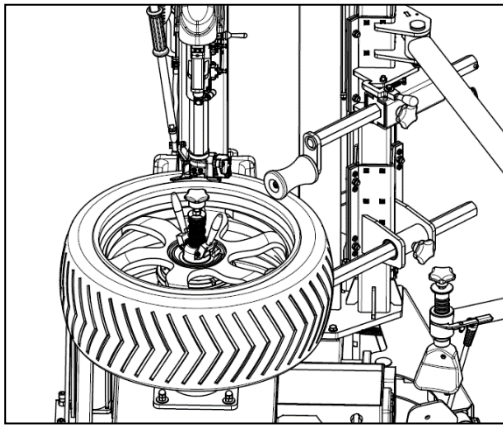
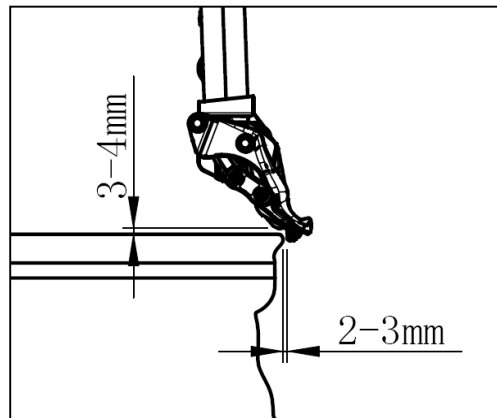

FIG11
FIG12
- Return the vertical arm and press the control valve (FIG2-19) to the middle position, the demounting head should fall to the working position. Make the demount tool close to the rim of the wheel. The protection covers and plastic tail cover in the demount head will contact with the rim edge. If the tire wall is hard, use the press plate of assist arm to press the tire lop down like FIG11. Then press the control valve button to lock the horizontal arm. At this time the demounting head will move slightly away the rim automatically to separate the demounting head and rim to avoid scratching the rim like FIG12.